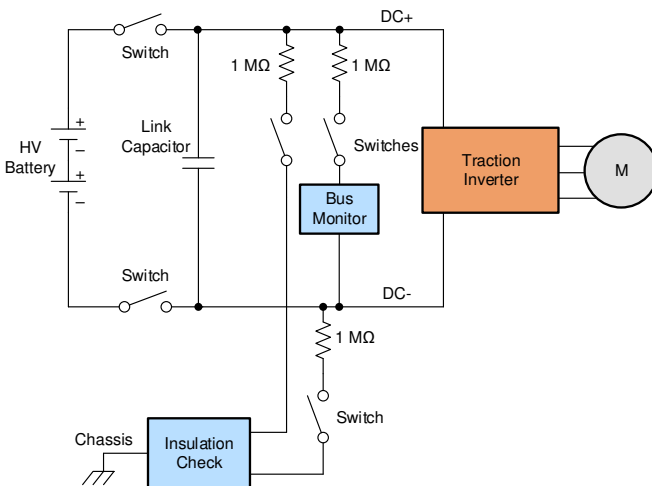

Figure 1. High-Voltage Switches in EV/HEV Applications
Figure 1 shows typical applications of high-voltage switches in an electric or hybrid car. SSRs/ERs are used to switch resistors of a known value to DC+ and DC- for insulation checks. Any currents flowing to chassis ground can be used to detect the magnitude and location of faults in the insulation. SSRs/ERs can also be used to connect/disconnect DC loads (such as the traction inverter) from the high-voltage (HV) battery. Other applications include switches to pre-charge DC link capacitors, or to discharge DC link capacitors under fault conditions.